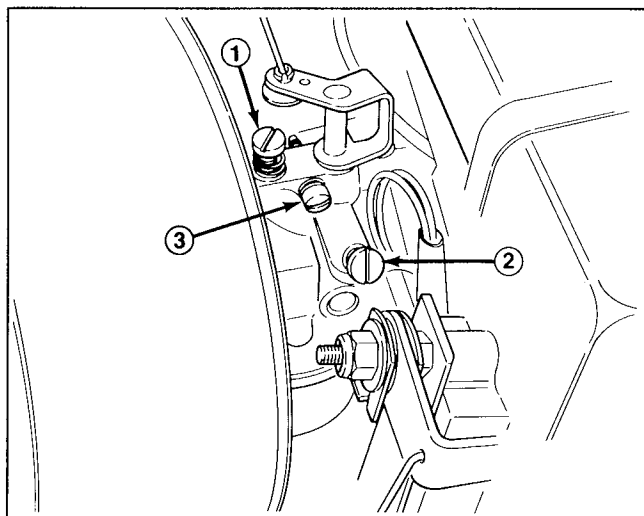

Figure 34
1. Main fuel screw (Fig. 34) — Close screw by gently rotating it clockwise.
3. Idle fuel adjusting screw (Fig. 34) — Close screw by gently rotating it clockwise. Open screw by rotating it 2-1 1/2 turns counterclockwise.
7. Idle Speed Setting (Fig. 34) — Run engine at half-throttle for 5-10 minutes to warm up. Move throttle to SLOW and set engine speed to 1300 RPM by turning the idle speed adjusting screw clockwise or counterclockwise.